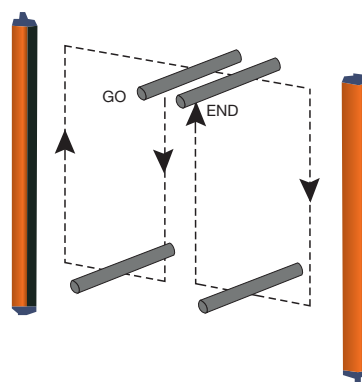

Fig. 12
- ESPE remains blocked (  ) intercepting the beams along the protected area using the specific test piece, following the Fig.12 scheme.